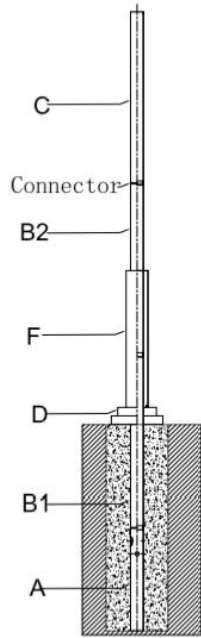

Fig.5
10. Let 5" Tube (F) from top of Pole (B2) to Base(D), secure mounting screws(G) by wrench (H).(Fig 5)